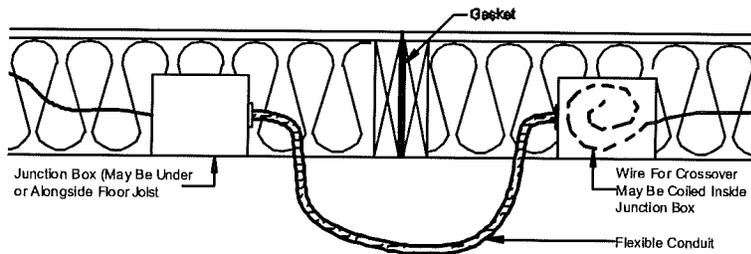

Figure 52. Under the rim joist electrical crossover connection with conduit
2. **Connect wires.** If wire is coiled inside one junction box, insert it into flexible conduit and pass it under the rim joists to the opposing box and make the connection as described above. If no coiled wire is provided, install conduit with wire making connections in both boxes (**Figure 52**).